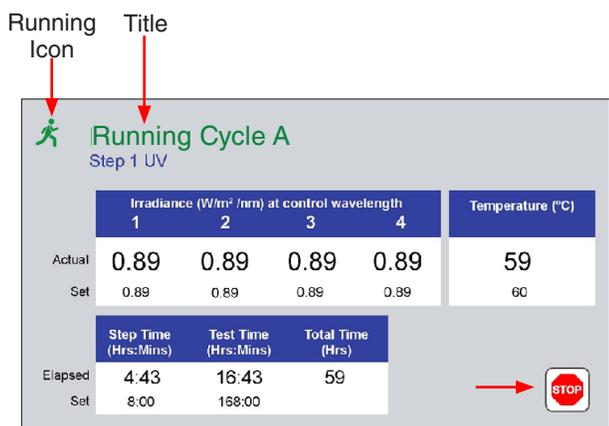
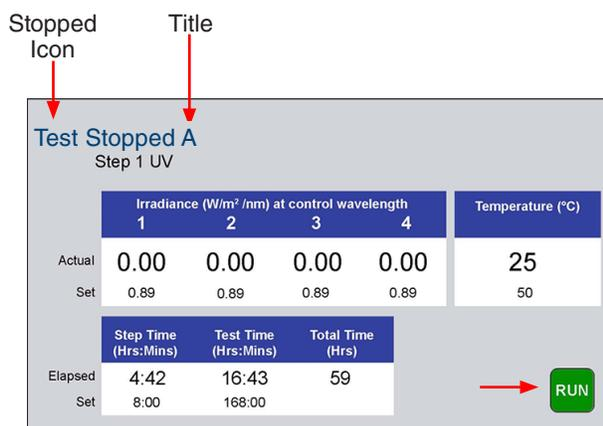

Figure 11.3b: Status icon and title when test running.
Figure 11.3c: Status icon and title when test stopped.
- A colored icon and title at the top of the screen indicate the overall status of the test: running or stopped (Figure 11.3b, Figure 11.3c). These figures show testers with SOLAR EYE irradiance control. QUV/basic has the same icons.